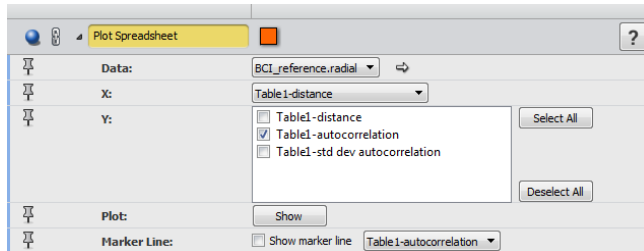

Figure 21.3: Plot Spreadsheet Module Properties
- Attach a *Plot Spreadsheet* module as shown in Figure 21.3